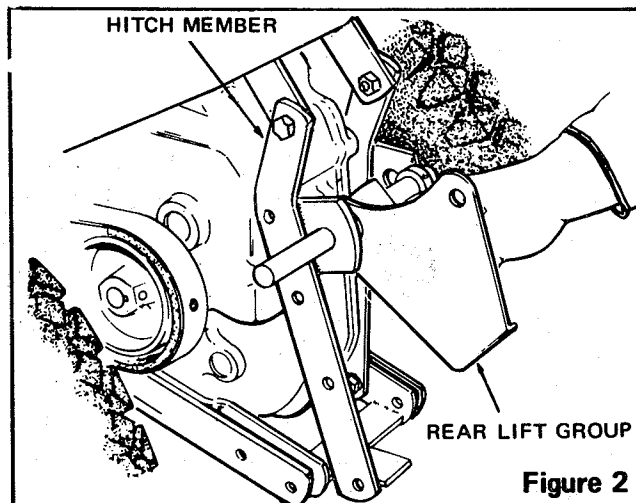

Figure 2
2. Swing hitch member outward and install lift assembly as shown. Return hitch member to original position and replace hex capscrews. See Figure 2.